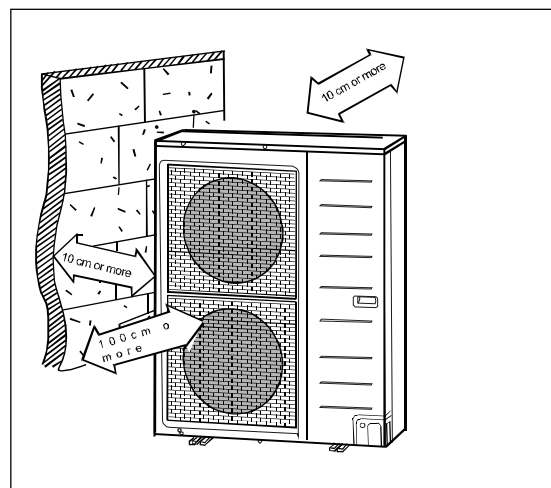

Fig.3
- Ensure the spaces indicated by arrows from the wall, ceiling, fence, or other obstacles.(Fig 3)